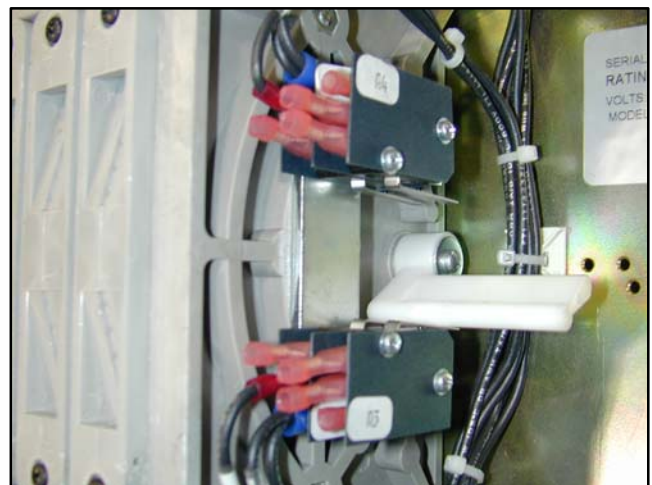

Figure 7-40 Microswitches
5. Note the location of the fast-on connectors to the microswitch terminals. See Figure 7-40.
12. Connect the fast-on connections to the microswitch terminals. See Figure 7-40.